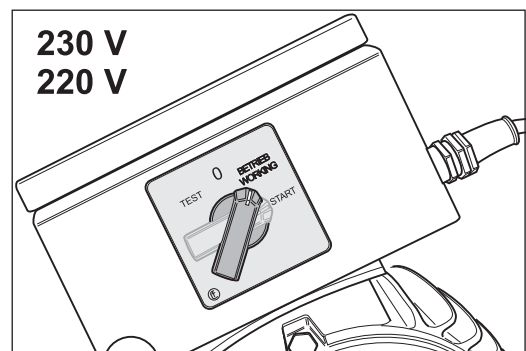

Fig. 23 Once the motor has reached its full speed, release the switch button. The switch button will then automatically move to position **-BETRIEB (WORKING)-**.
- Once the motor has reached its full speed, release the switch button. The switch button will then automatically move to position **-BETRIEB (WORKING)-** (Fig. 23).